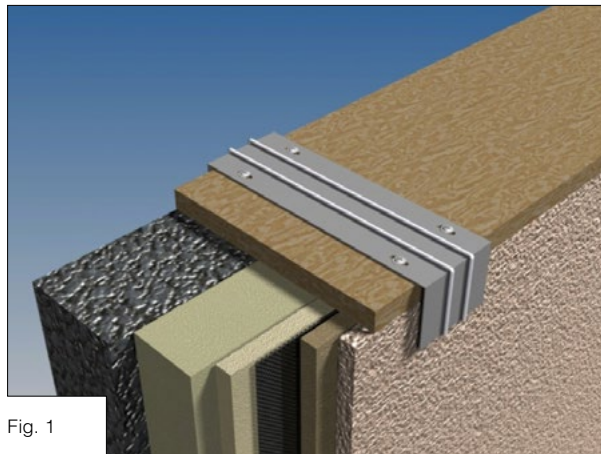

Fig. 1
1. Fixing brackets must be located centrally at each coping joint abutment and spaced at maximum 1.5m centres. Secure each bracket using 4 no. No. 8 x 25mm flangehead screws, code SC204. Fig. 1